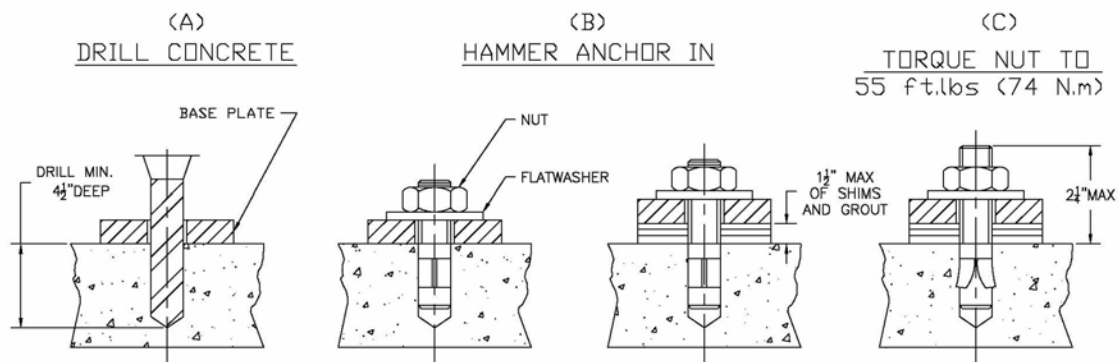

Figure 9 - Anchoring
3. Using a rotary hammer drill and a 1/2" concrete bit, drill through the floor at each of the six (6) anchor bolt locations on each of the base frames. Make sure that the 1/2" concrete drill bit is in good condition. Refer to Figure 9.